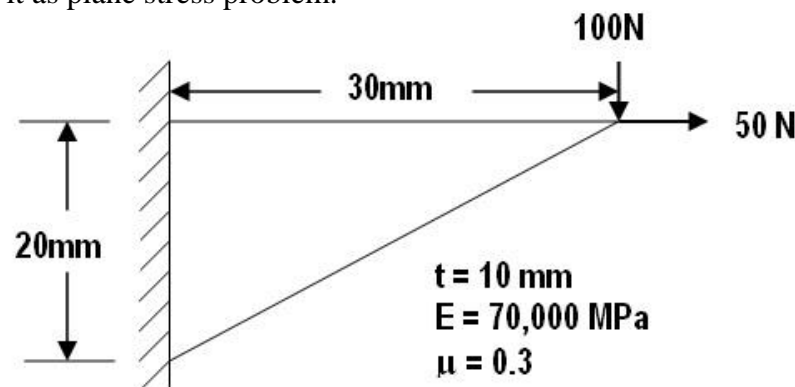

Figure.2
5. For the triangular plate shown in figure.2, determine the deflection at the point of load application and also stress induced in the plate using a one element model by considering it as plane stress problem. [14]